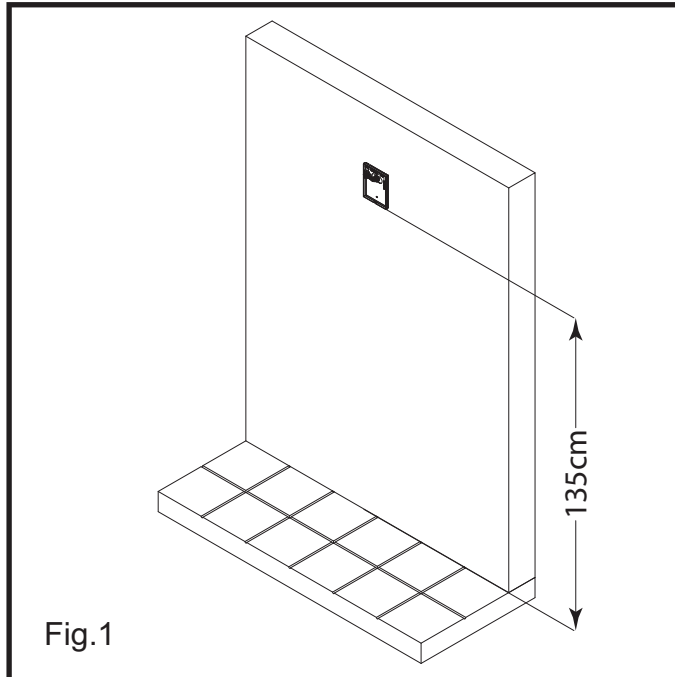
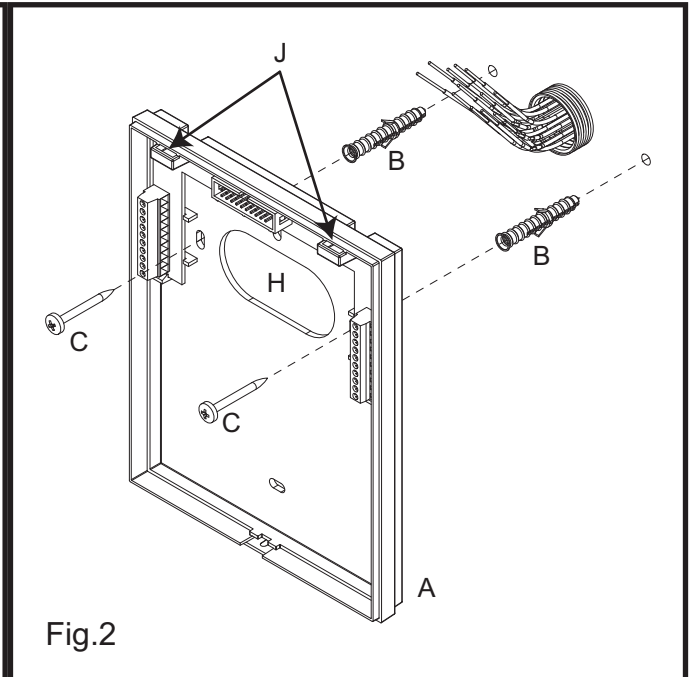

Fig.1
Fig.2
- Appoggiare a parete la base "A" ad una altezza di circa 135cm (Fig.1) dal pavimento finito e prendere i riferimenti per i fori di fissaggio, tenendo presente che i conduttori devono passare attraverso la fessura "H" (Fig.2).
- Con l'ausilio degli incastri "J" (Fig.2) agganciare il coperchio "D" alla base "A" come mostrato in figura 4 quindi spingere la parte inferiore del coperchio "D" verso la base "A" e procedere al collaudo del sistema.
- Put the bottom "A" against the wall at 135cm from the finished floor (Fig.1). All cables must be fed through hole "H" (Fig.2).
- Leaving approximately 135cm from the finished floor, fit the bottom "A" against the wall and mark the fixing holes considering that the cables must be fed through the opening "H" (Fig.2)
- Make the holes, and fix bottom "A" on the wall using the two wall plugs "B" and the two screws "C" as shown in figure 2.
- Hook cover "D" to bottom "A" by using the two clips "J" (Fig.2) as shown in figure 4 then push down cover "D" towards bottom "A". Then proceed with system testing.